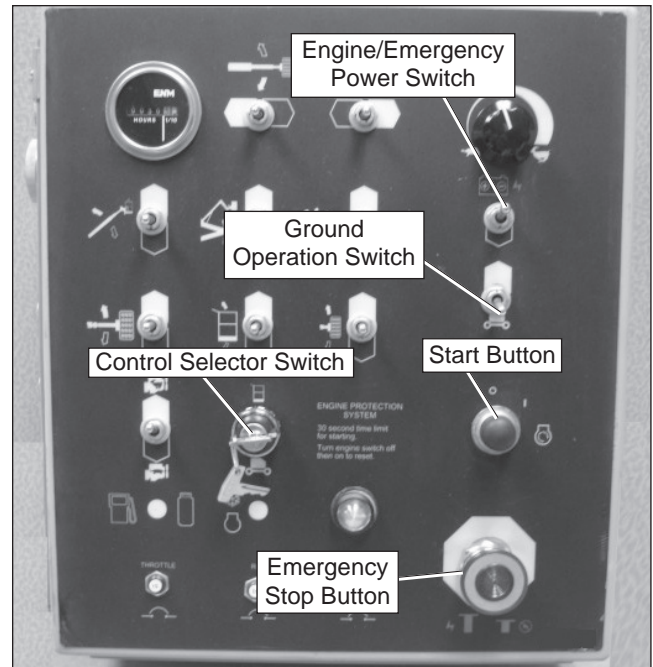

Figure 10.2 – Lower Controls
2. Place the key in the start switch (refer to Figure 10.2) and turn the start switch on.